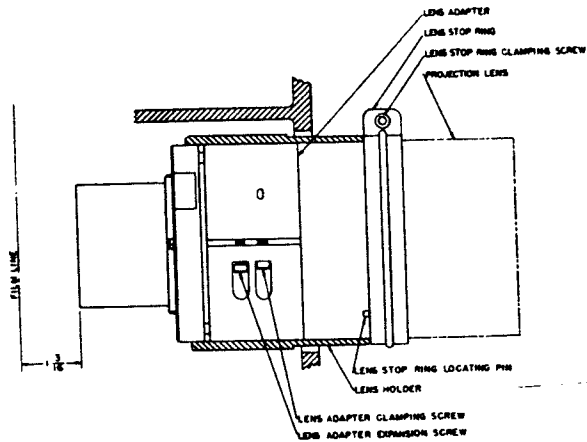

FIGURE 1-14
b. Four Inch Diameter Lenses--All Focal Lengths (See figure 1-14.)